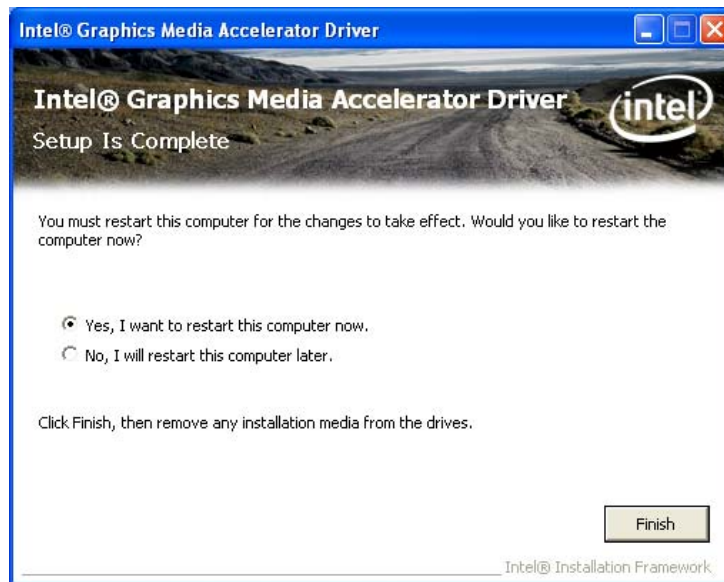

Figure 6-13: VGA Driver Setup Is Complete Screen
Step 17: Select “**Yes, I want to restart the computer now**” and click **FINISH**. See **Figure 6-13**.